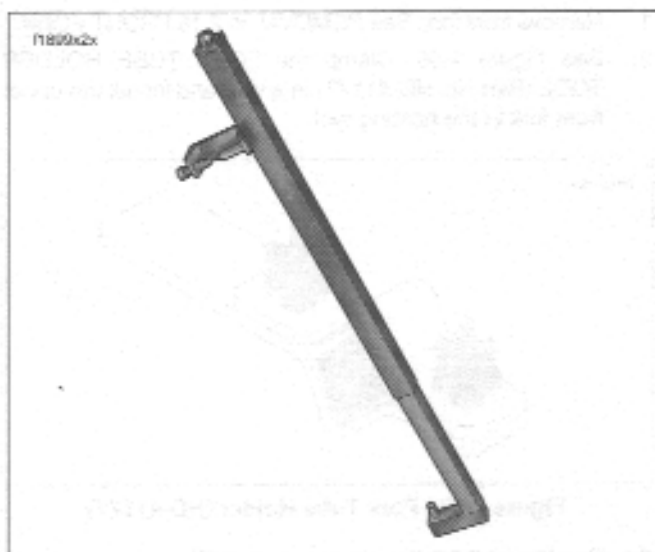

Figure 2-60. Fork Spring Compressing Tool
5. Remove fork cap (4) from outer tube.
6. See Figure 2-60. Move the fork assembly from the holding tool and compress fork in the FORK SPRING COMPRESSION TOOL.
9. See Figure 2-60. Uncompress fork and remove from FORK SPRING COMPRESSION TOOL.